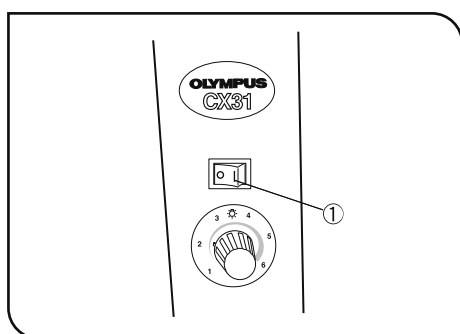

Fig. 4
2 Connecting the Power Cord (Figs. 4 - 6)
▲Make sure that the main switch ① is set to “O” (OFF) before connecting the power cord. (Fig. 4)